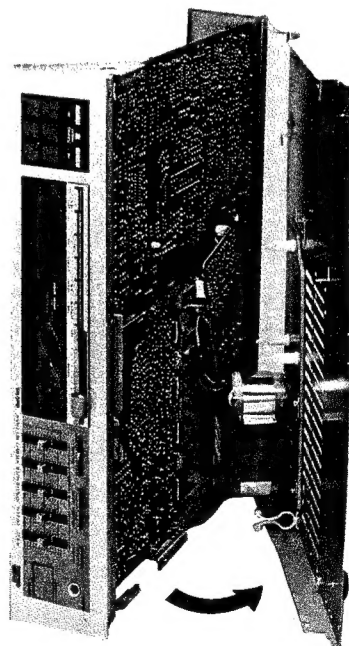

Fig. 6
- (4) Remove the chassis base in this manner shown in Fig. 6.